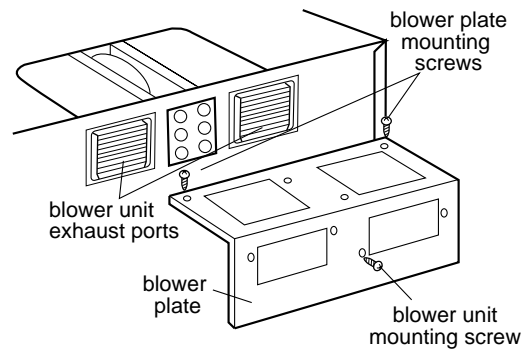

Figure 16
8. Reattach the blower plate to cabinet so the exhaust ports and blower plate opening are aligned. Attach with one blower unit mounting screw and then two blower plate mounting screws. See Figure 16.